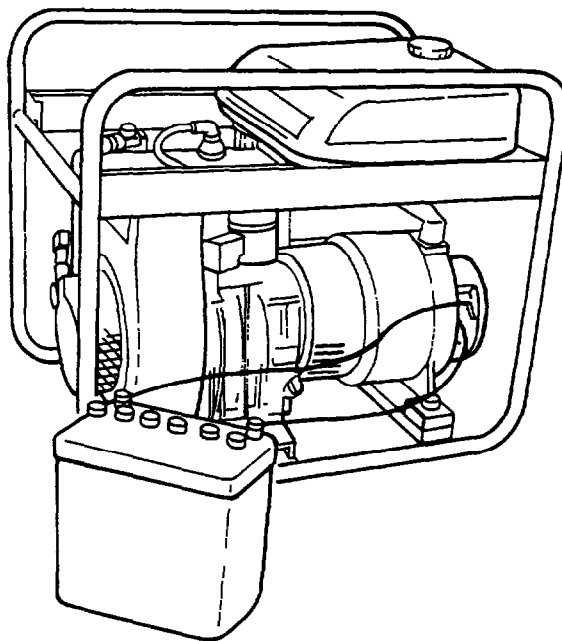

Fig. 9-11
- B. If no output voltage is generated by the test conducted as described in Step A., operate the generator at the rated rpm and momentarily connect a 12V battery to the brushes. The green lead is positive (+) and the black or brown lead negative (-) (See Fig. 9-11.). If output voltage is generated, the primary exciting circuit in the AVR is defective. Replace the AVR.